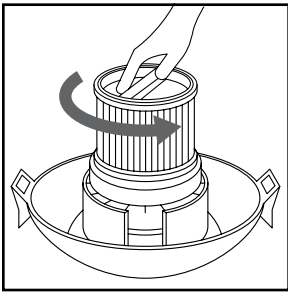

FIGURE 13
18. To remove the filter for cleaning, again hold the tank cover and turn the filter retainer counter-clockwise to loosen and remove. **(FIGURE 13)**